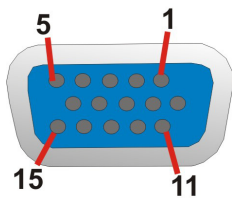

Figure 3-22: VGA Connector
Step 2: Locate the internal DisplayPort connector. The location of the internal DisplayPort connector is shown in **Figure 3-22**.